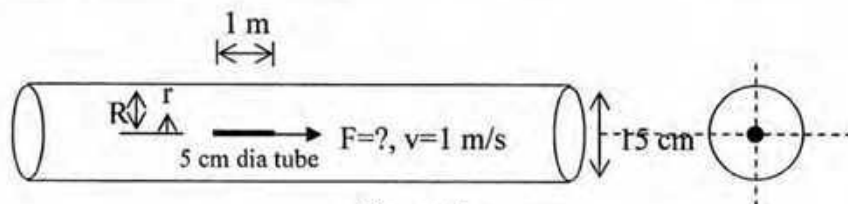

Figure 1
- b. A circular pipe of 15 cm diameter is filled with glycerine as shown in Figure 1. 9